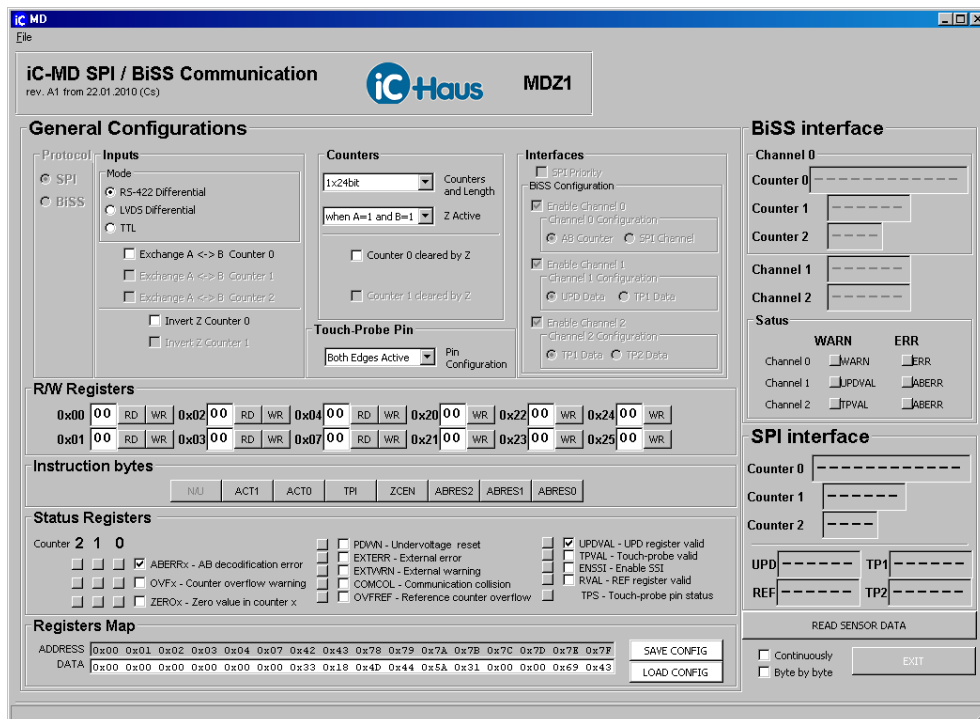

Figure 3: Screenshot of the software
3. Installation will make the software "iC-MD_xx.exe" available in the selected working directory. The execution of this file will start the software. Figure 3 shows a screenshot of the start up window.